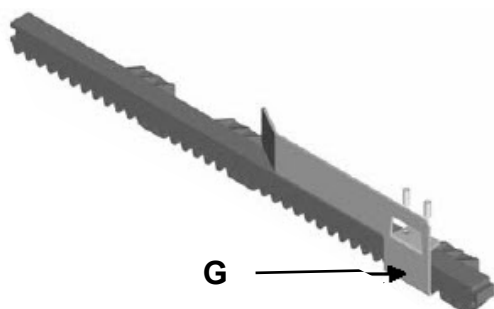

Fig. 4
- Check that the wheels (**Fig. 4**) used are suitable for the type of runner on the ground
Fasten the limit stop plates (Cams **G**) of the motor on the rack. (**Fig. 4**)